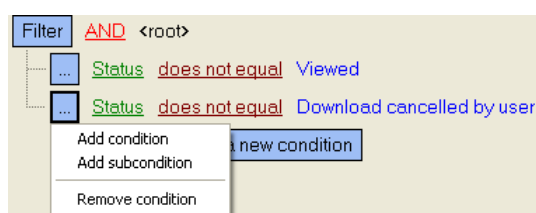

Fig. 2.7—9 Condition menu
2. Remove a condition. To remove a condition, click the corresponding item in the condition menu (Fig. 2.7—9).